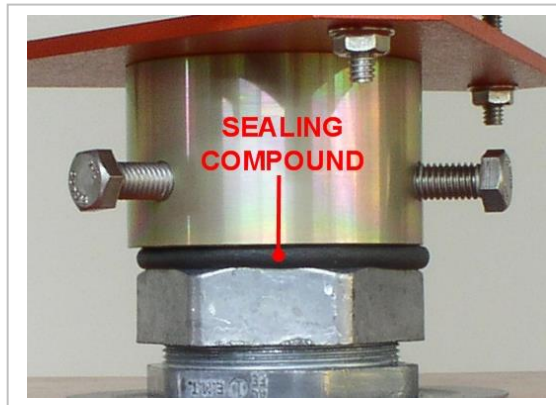

Figure 8
- Check co-mounted flash head sealing. There should be a continuous bead of sealing compound between the housing hub and the EMT compression nut as shown in Figure 8a. Sealing compound must also be packed all around the harness sleeve as shown in Figure 8. Use Gardner-Bender DS 110, or similar, Duct Seal when repairing or replacing.